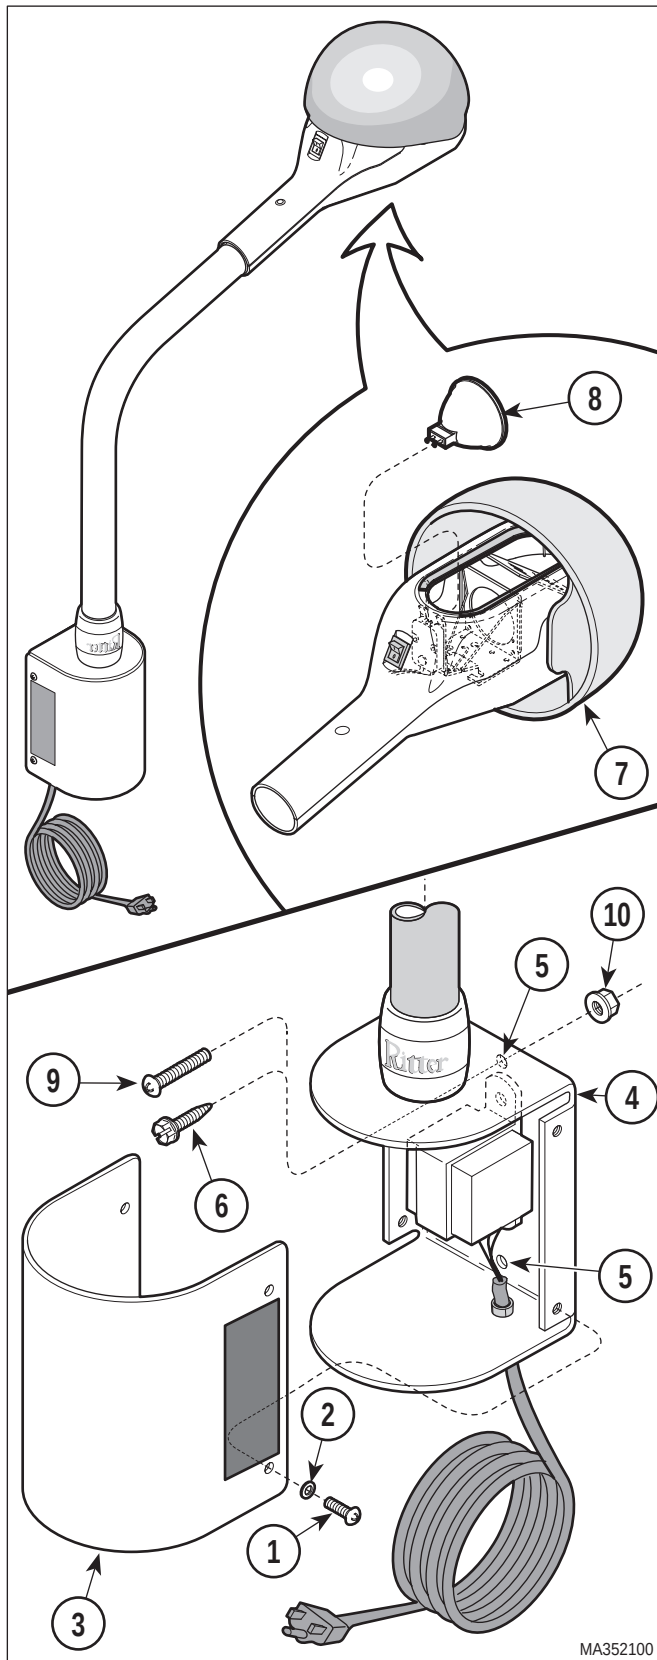

FIGURE 2
Model **159-003** is a wall / cabinet mount unit (see Figure 2).
- (1) Insure that the unit's plug is not connected to an electrical receptacle.
- (2) Remove four screws (1, Figure 2), washers (2), and the wall mount cover (3) from wall mount bracket (4).
- (2) Remove the four screws (1, Figure 2), washers (2), and wall mount cover (3) from the wall mount bracket (4).